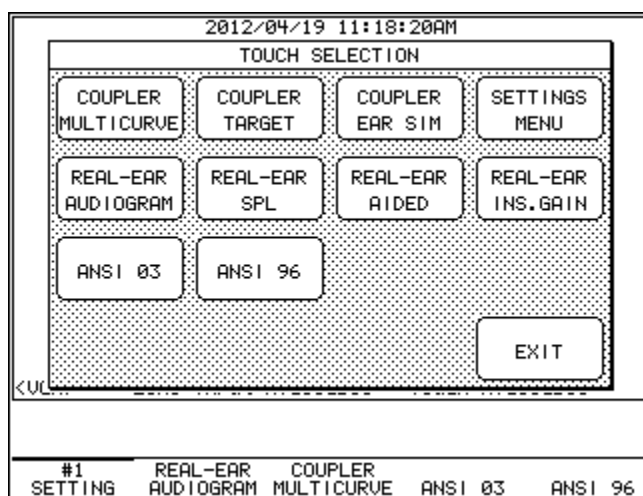

Figure 1.3—Touch Navigation Map
Press – Press down on the screen for more than a second. This action is used to bring up the Touch Navigation Map (see Figure 1.3). This feature allows you to quickly move to any other FP35 screen.
1. Press [MENU] from the Opening screen. This opens the Default Settings menu. See Figure 1.3.